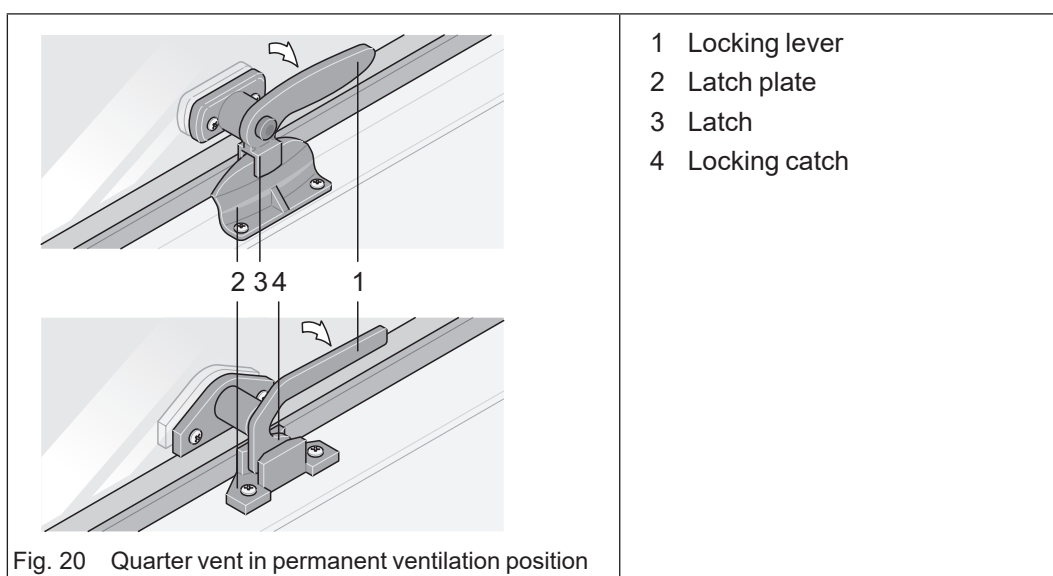

Fig. 20 Quarter vent in permanent ventilation position
- ➔ Only put the locking levers (Fig. 20/1) at the lower edge of the window to “permanent ventilation” position.
Locking lever (Fig. 20/upper half) with push-button:
- ➔ Put the locking lever (Fig. 20/1) into vertical position.
- ➔ When closing the locking levers, make sure that the latch (Fig. 20/3) engages around the latch plate (Fig. 20/2).
Locking lever (Fig. 20/lower half) without push-button:
- ➔ When closing the locking levers, make sure that the latch (Fig. 20/4) engages inside the latch plate (Fig. 20/2).